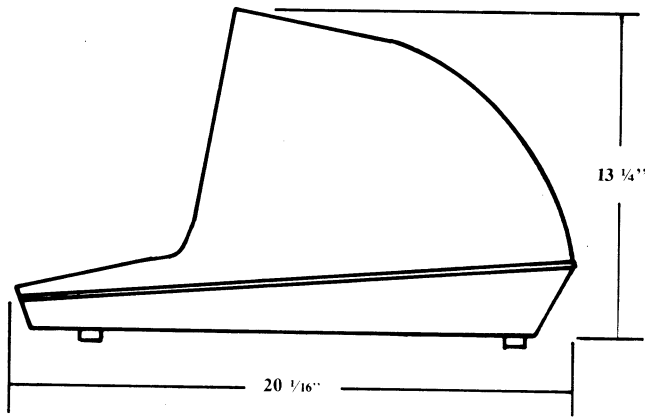

Figure 2-1 Model 910 Dimensions
- Recommended ventilation clearance is 4 inches (10.2 cm) on all sides. Refer to Figure 2-1.